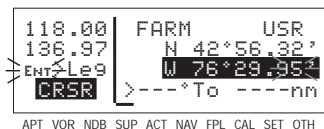

Figure 5-28
- Enter the longitude in the same manner as the latitude (figure 5-28).